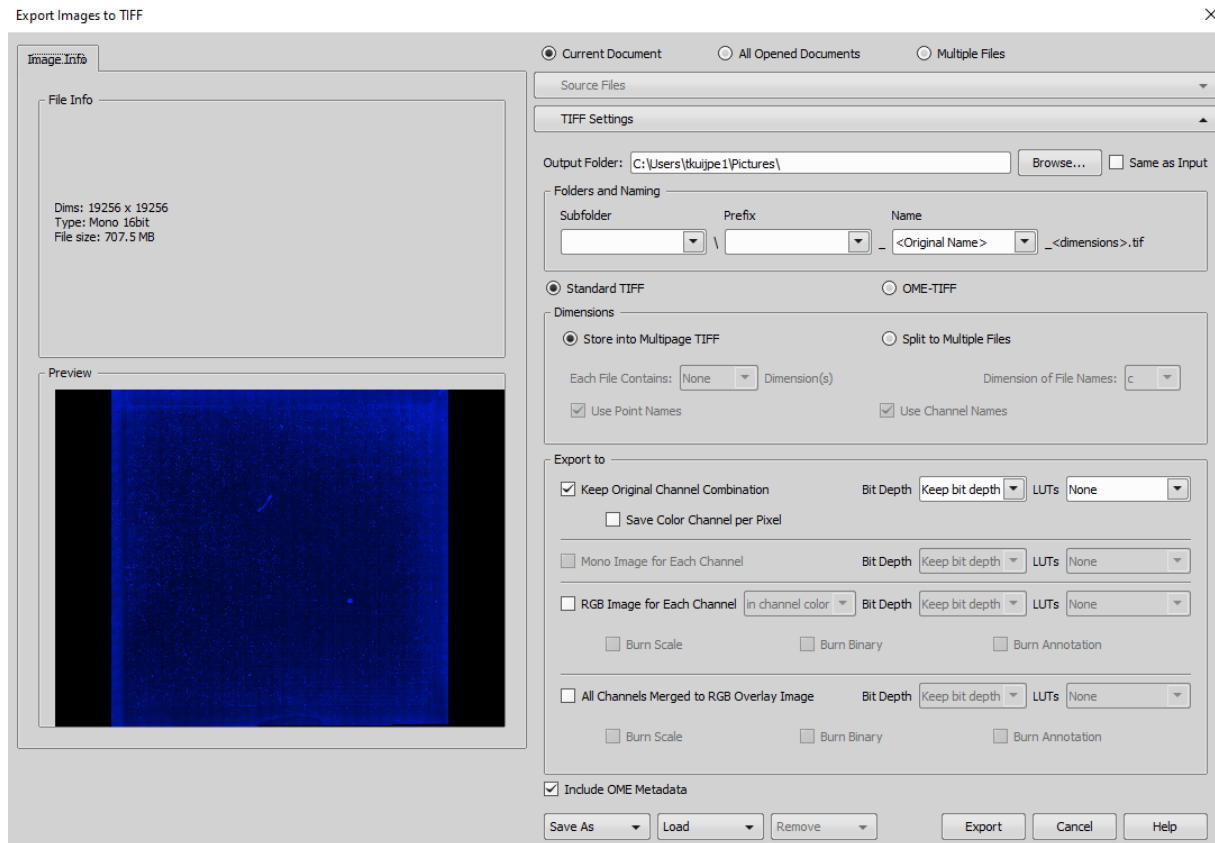

Figure 2 NIS Viewer: overview of the export settings to convert .nd2 files to .tif file.
3. Export the image as an .tif file by taking the following steps (figure 2):